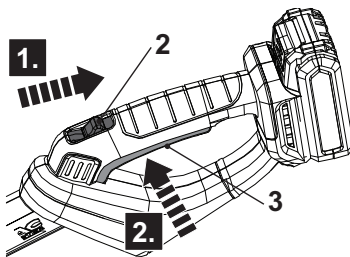

Fig. 24
1. Ensure the the saw chain (17) does not touch any objects. Remove the guide bar cover (15) from the saw chain (17) before switching the product on.
2. Hold the product with one hand on the soft grip (7a) of the rear pole (7) and the other hand on the rear handle (1). Do not start the product while handling it with one hand.
3. Pull back the lock-off button (2) and hold it in position (Fig. 24, step 1).
4. Squeeze the on/off switch (3) to switch the product on (Fig. 24, step 2). Release the lock-off button (2) afterwards.
5. Release the on/off switch (3) to switch the product off.